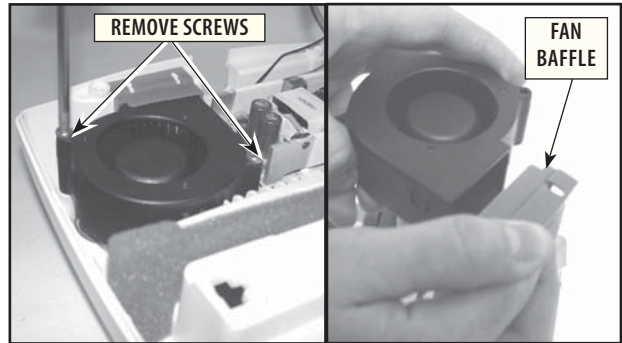

FIGURE 6.4
2. With #1 Phillips screwdriver, remove the 2 screws securing the Fan. **Refer to Figure 6.4.**
4. Remove Fan Baffle from Fan. **Refer to Figure 6.4.**